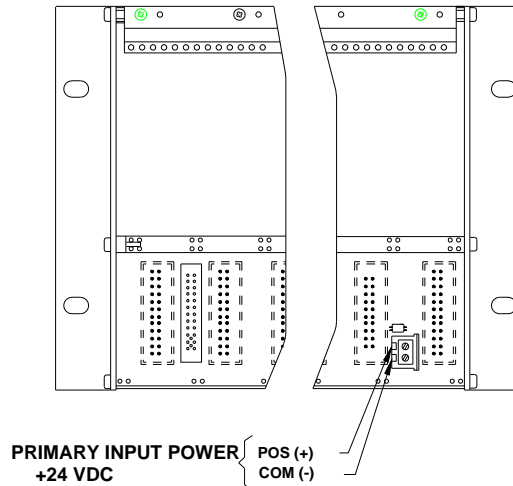

Figure 19: Power Connections Rear Chassis
Figure 19 indicates where the power connections for the chassis are made.
- The Field Transmitter input consists of a standard three lead connection, such as, (Black = Common, White = Signal, Red = +24 VDC). See Figure 19.
The Card Test Input is provided so that the user can access the Card Test feature remotely. One end of a normally open SPST switch is connected to this terminal and the other end is connected to system common (see Figure 19).